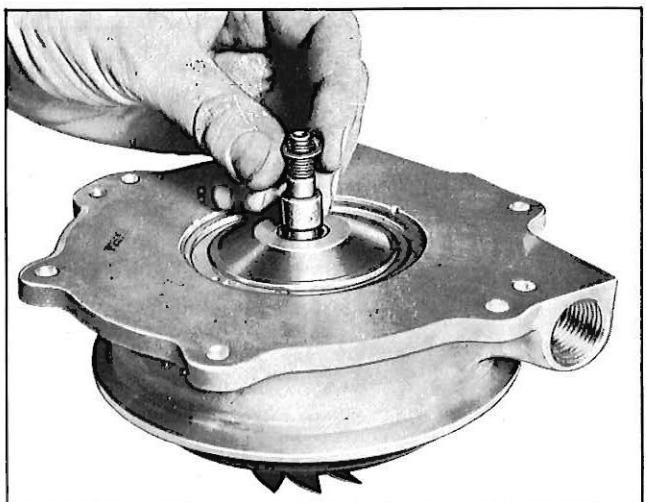

*Fig. 33—Installation of Turbine Wheel and Shaft*
12. Lubricate the shaft (bearing area) and carefully install through the bearing (fig. 33). The plastic ring is left on the shaft after installation since it will burn away. If wire was used,